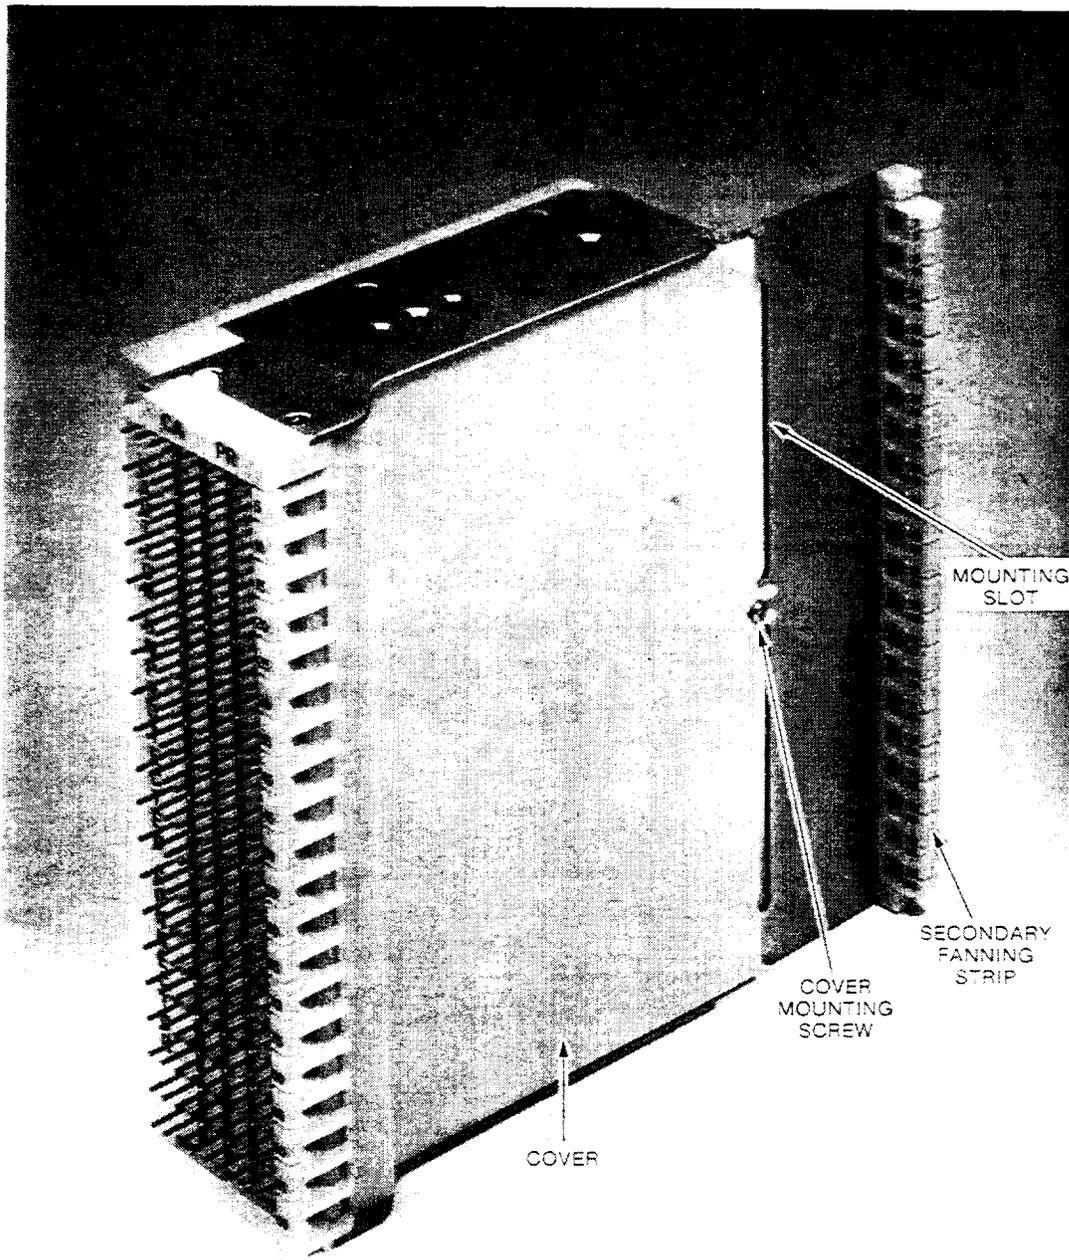
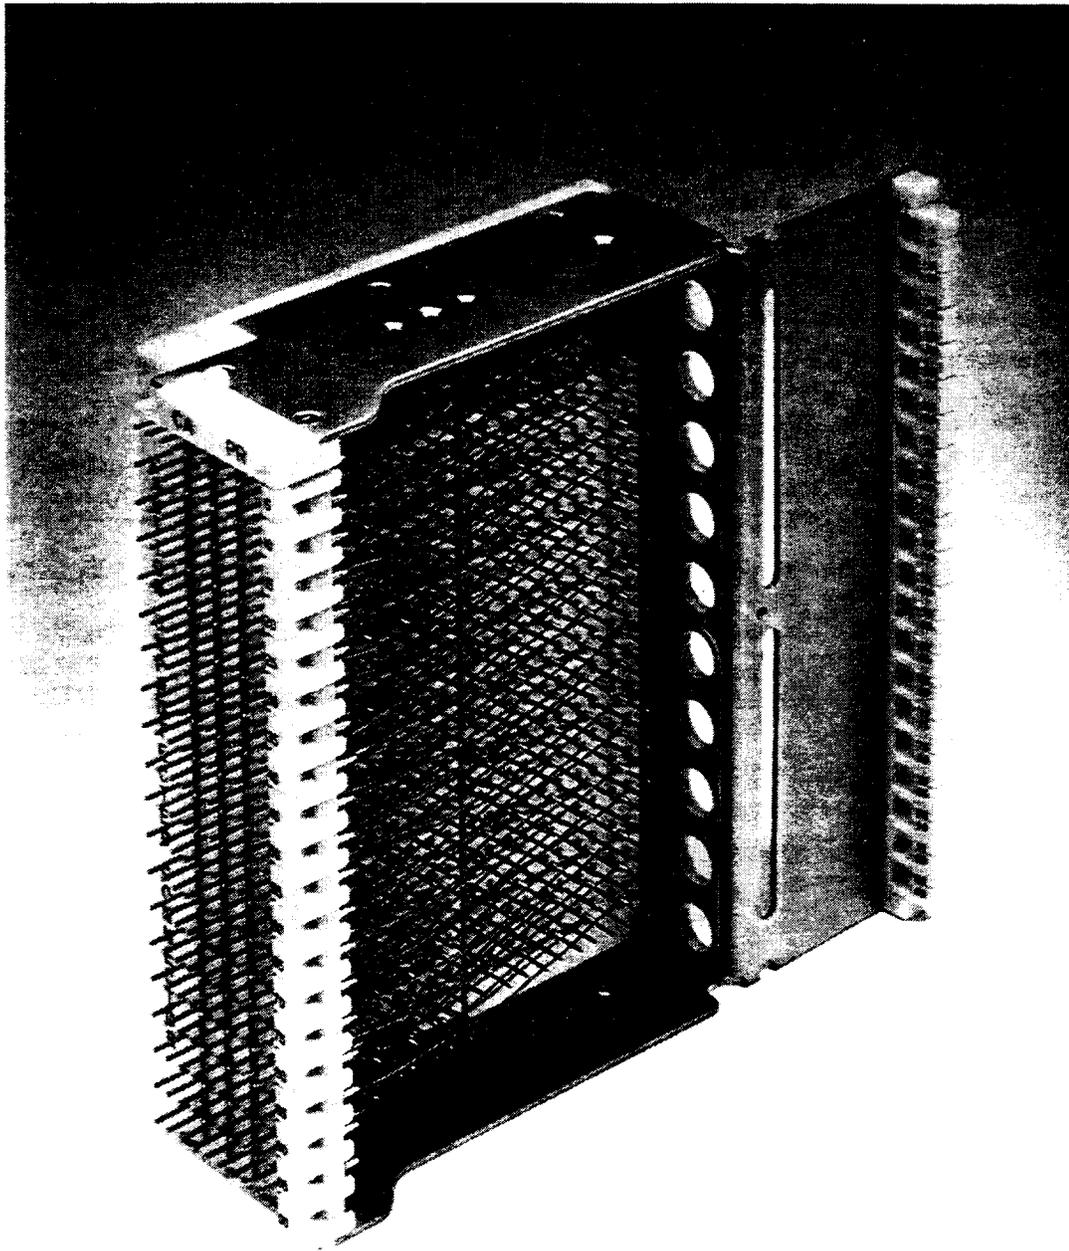

Figure 12. 410/410M Right Side-View
Figure 13. 410-Type Connector with Side Cover Removed
- (1) Using an off-set screwdriver, remove the back cover (side of connector) by removing the screw holding the cover to the bracket (Figure 12). Figure 13 shows the cover removed.
- (2) On the wiring side of the connector, tag and remove the leads from the terminal to be replaced.
- (3) Using the B long-nose pliers, close the tangs on the terminals or break the terminal flush with the back side of the connector panel.
- (4) Remove the terminal from the front side of the connector panel.